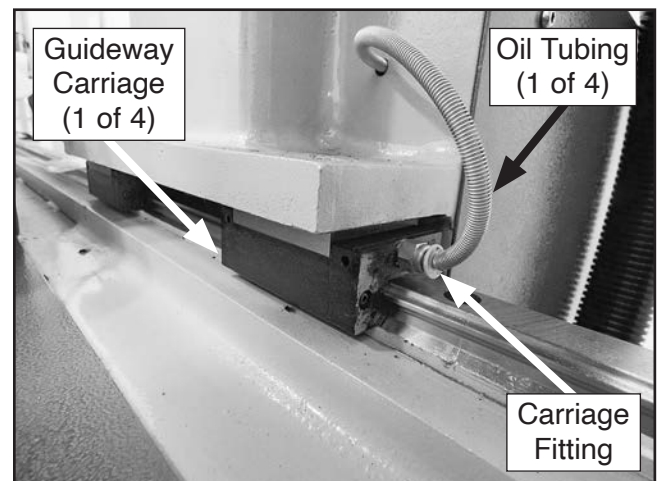

Figure 53. Example of oil tubing installed on guideway carriage.
28. Remove any ties securing oil tubing on gantry columns and insert (4) oil tubes into (4) guideway carriage fittings (see **Figure 53**). Tug oil tubes with light force to make sure they do not easily come out.